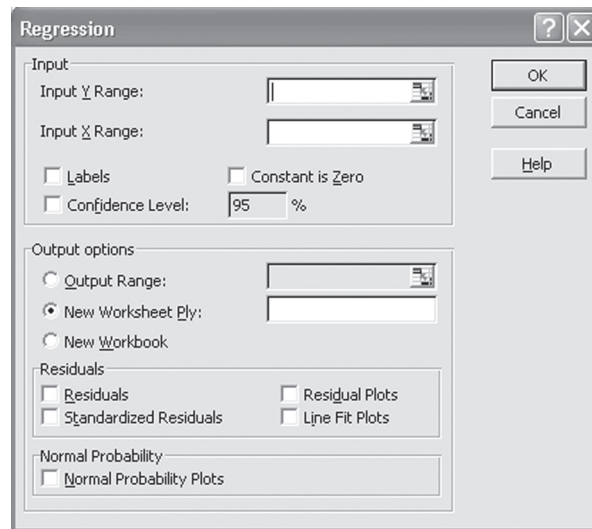

Figure R8.4 | Regression Window
4. Enter the range for the variable you want to predict (the measured or dependent variable) for the **Y Range** by clicking on the little red arrow on that row of the dialog box, then selecting the cells, including the heading, for one column of data (Figure R8.4). Then press **Enter**.